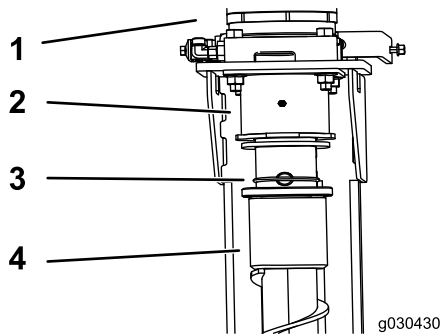

Figure 1
4. While holding the stakes, remove the O-rings and pins securing the stakes to the motors (Figure 1).
5. While holding the stakes, remove the pins and e-clips securing the stakes to the motors (Figure 1).